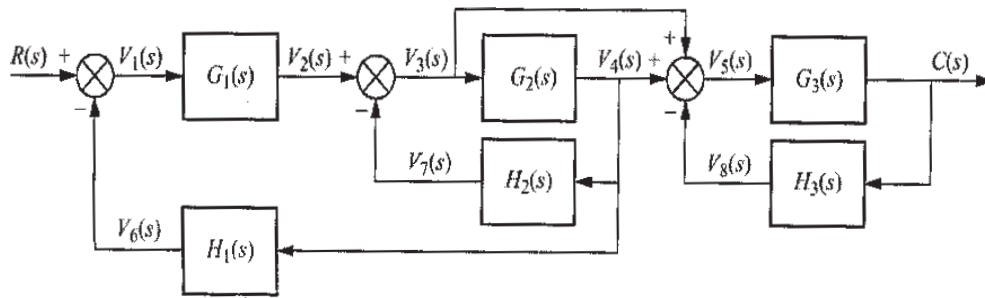

Fig. 3
- b) Reduce the block diagram shown in figure 3 to a single block representing the transfer function, $T(s) = C(s)/R(s)$ [8]